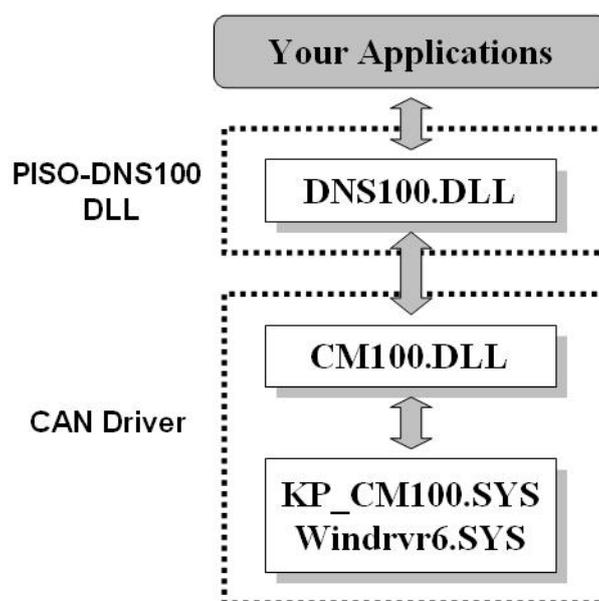

Figure 4.1.1 Software architecture in the Windows system
The DeviceNet DLL driver (DNS100.dll) collection of function calls for the PISO-DNS100(U) cards used in Windows 2000/XP systems. The application structure is presented in the following figure. The user's DeviceNet application programs can be developed by the following designated tools: VC, VB, Delphi and Borland C++ Builder...etc. In these tools, the application program can call the DNS100.DLL driver to implement DeviceNet network application. And then the DeviceNet DLL driver would throughout the CM100.dll into the KP_CM100.sys and windrvr6.sys to access the hardware system, as shown in the following Figure 4.1.1.